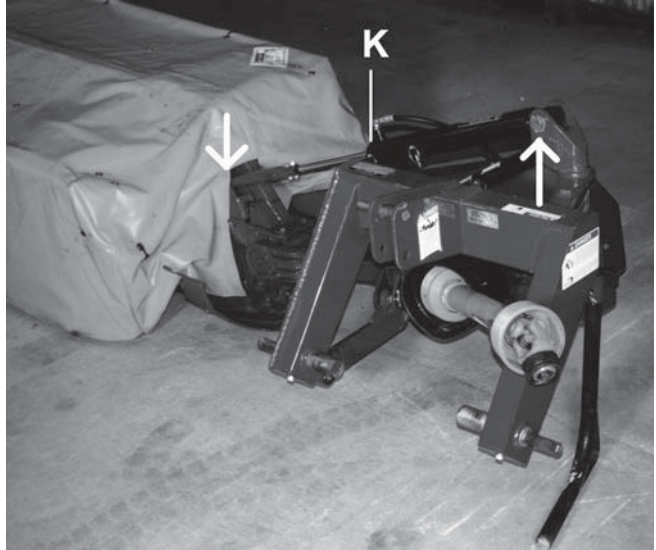

Figure 8
10. Attach the hydraulic cylinder and Lift Rod (K) to the main frame and link attached to the cover frame. Use a lift rod pin, capscrew and lockwasher. To secure the lift rod to the link and a cylinder pin and cotter keys to secure the cylinder to the main frame yoke. (See **Figure 8**.)